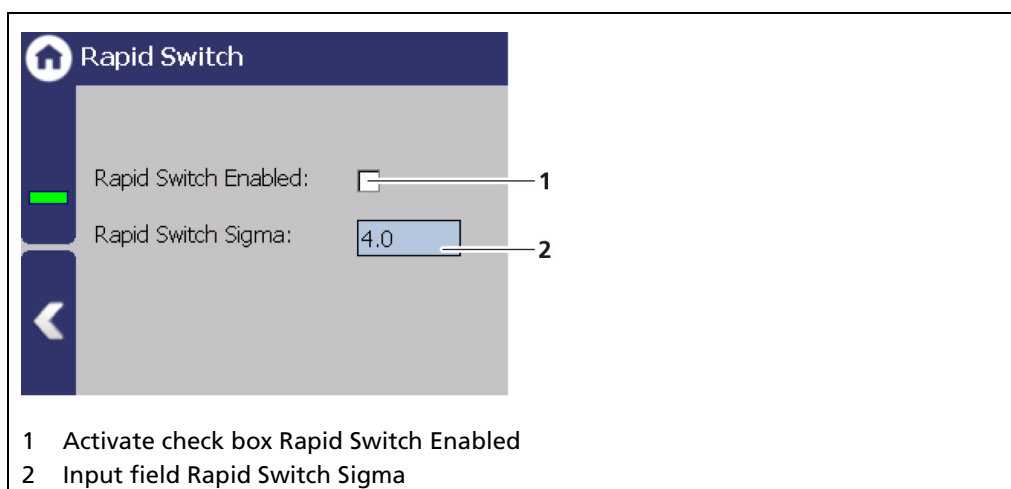

Fig. 106 Signal Condition (Rapid Switch)
When "Rapid Switch" (Fig. 106, item 1) is activated, there is a rapid reaction ((Fig. 106, item 2) to a quick change in level. The time constant in this case is set to 1/10. After that, the time constant is reset to the original value. A change in level is considered to be a "rapid" change when the count rate is changing more than the entered sigma value within a short time. The sigma value can be adjusted to the process. A sigma of 4.0 is factory set at delivery.